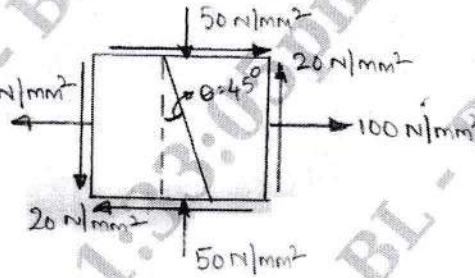

Fig. Q1 (c)
c. At a point in a stressed body, the stresses act are shown in Fig. Q1 (c). Determine the value of (05 Marks)
- b. A four bar mechanism shown in Fig.Q1(b) has crank 2 driven by an input torque T_2 ; an external load $P = 50\text{ N}$ acting at point E on link 3. For the position shown in figure, find the magnitude and direction of torque T_2 for the linkage to be in static equilibrium.